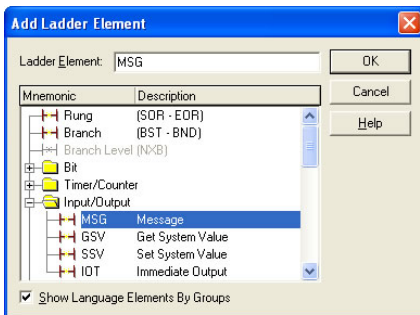

Figure 102: Adding a MSG Instruction
- d) Select the "MSG" instruction in the Input/Output folder. Refer to Figure 102.